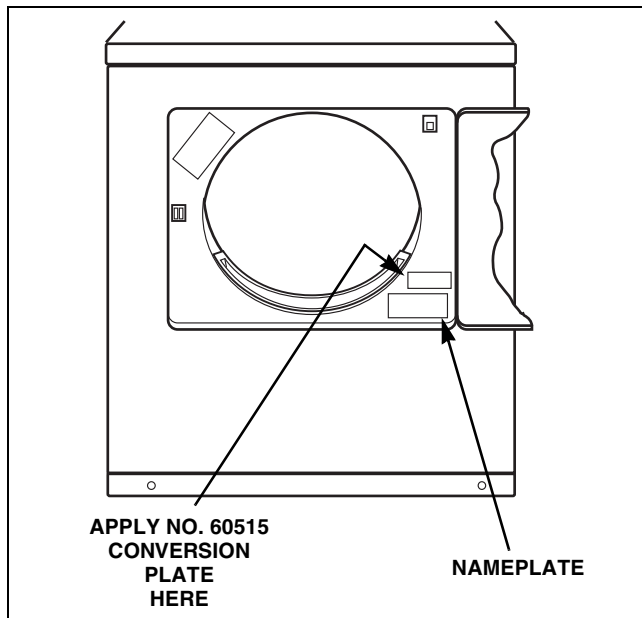

Figure 43
- Apply the No. 60515 Conversion Plate to the inside of the loading door opening above the nameplate. Refer to *Figure 43*.